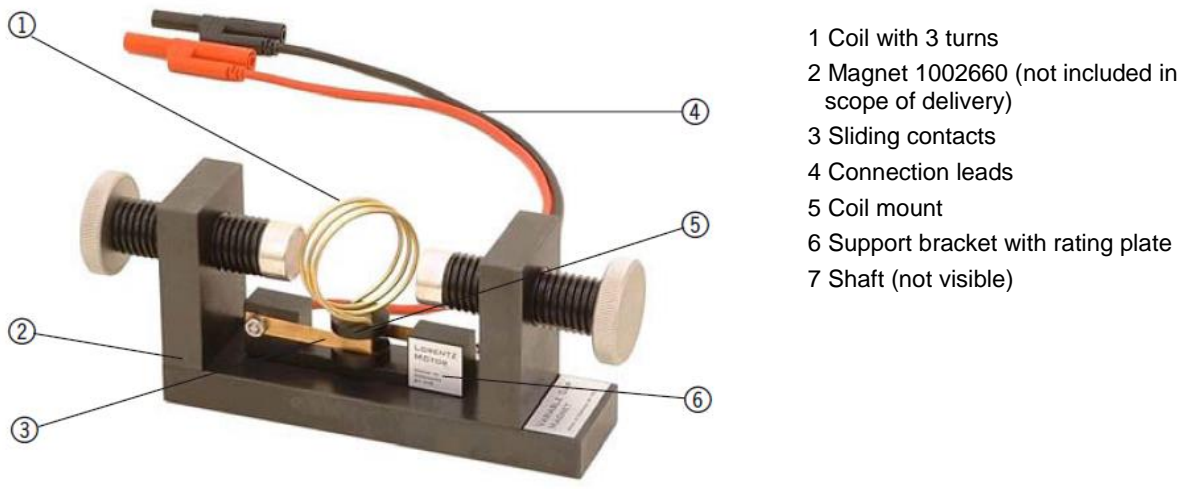

Fig.1: Components
most perpendicularly to the magnetic field. The permanently attached connection leads (4) are equipped with commercially available lab safety plugs with 4 mm diameter. In one of the leads there is also a series resistor with approx. 0.16 Ω (not visible in Fig. 1) designed to limit the maximum motor current to such an extent as to avoid any disturbance to electronic control performed by standard power supplies.